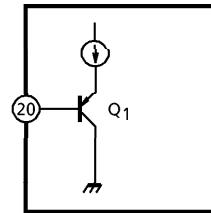

Fig.1
(1) Threshold voltage
Pin⑩ is coupled to the base of Q₁ (PNP-Tr) as shown in Fig.1.